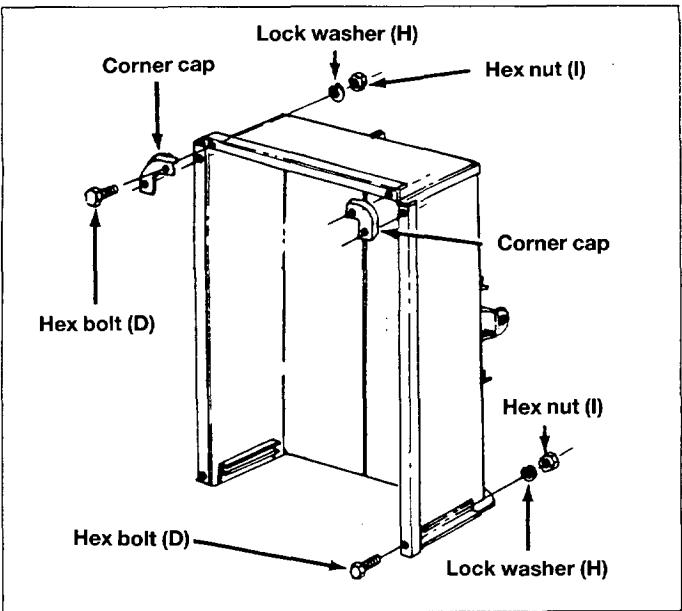

Fig. 10
15. Assemble two front top corner caps and two bolts in top flanges through tailgate reinforcement bracket using  $1/4'' \times 1/2''$  (6  $\times$  12 mm) hex bolts (D), lock washers (H) and hex nuts (I). See figure 10.